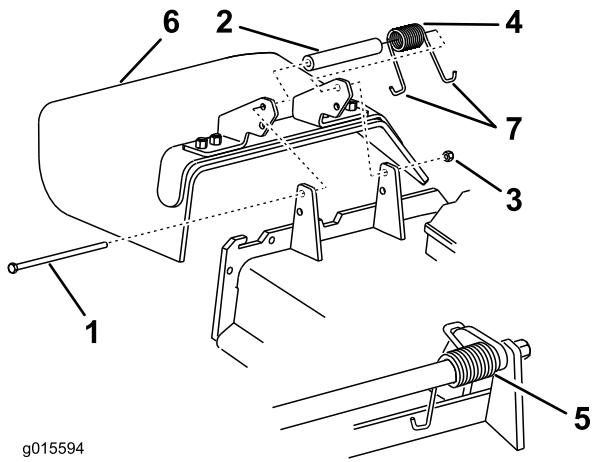

Figure 89
1. Remove the locknut, bolt, spring and spacer holding the deflector to the pivot brackets (Figure 89). Remove the damaged or worn grass deflector.
Note: Make sure one **J** end of the spring is installed behind the deck edge before installing the bolt as shown in Figure 89.
3. Install the bolt and nut. Place one **J** hook end of the spring around the grass deflector (Figure 89).